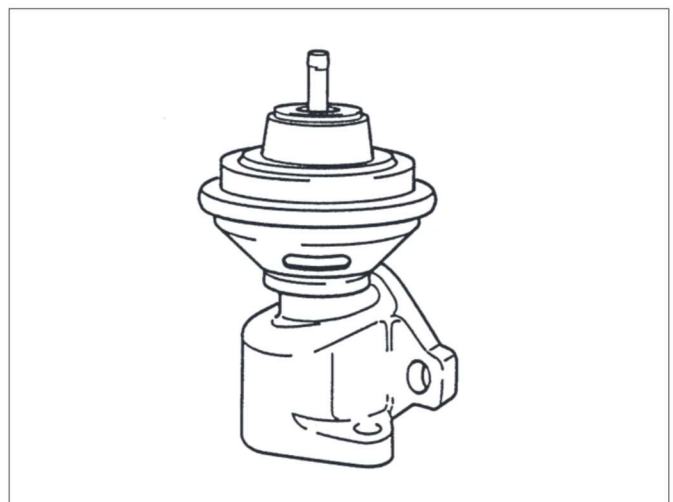

Fig. 4
4.3 Exhaust gas recirculation valve (EGR valve), fig. 4